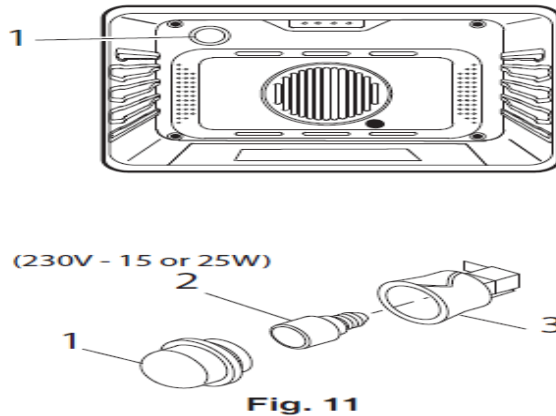

Fig. 11
2. Remove the lens (1) by unscrewing it.
3. Remove the light bulb (2) from its socket (3).
4. Replace the bulb (2) with a new one. Avoid touching the bulb with fingers, as oils from hands can damage the bulb when it becomes hot.
5. Use one with the same Volt and Watt (see Fig. 11).
6. Screw the lens (1) back on.